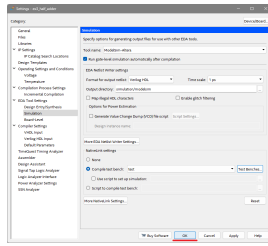

Figure 25: Click "Start Simulation"
16. Click "OK" in "Settings". (Figure 25)